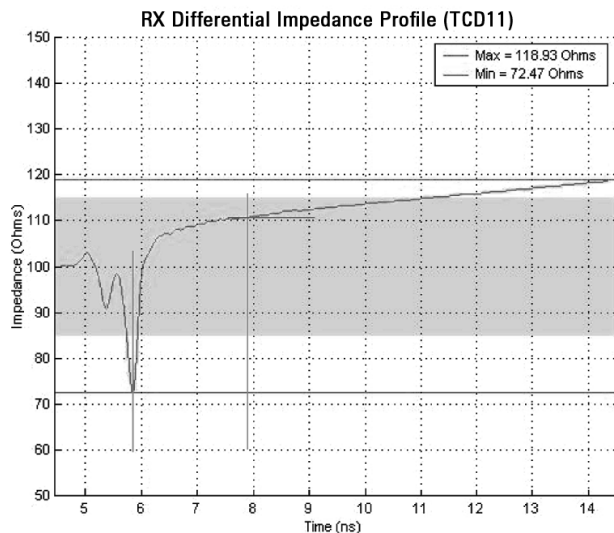

Figure 14. Tx/Rx Impedance
H. Record the impedance value at the point occurring 2 ns after the last major capacitive dip (see Figure 14).